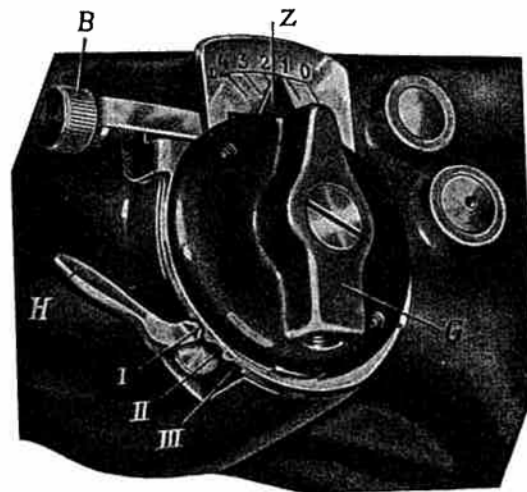

Fig. 12
If the nose of the Dial-A-Stitch lever (G), (Fig. 12), is on point zero of the scale, the machine is performing the straight stitch. If you turn the lever, (G), to the left, the machine is doing the zigzag stitch. The width of the zigzag stitch is increased as the lever, (G), is turned to the left, bringing the width of the zigzag stitch up to a maximum of $1\frac{1}{64}$ ".
If lever H (Fig. 12) is pressed against the body of the machine, and then shifted down into position II, the machine will sew to the right of the stitch made in the normal position. In position III, it will sew still farther to the right, continuing the same kind of stitch for which the
With Dial-A-Stitch lever H in position I, (Fig. 12), adjust stitch regulator between zero and one. Adjust the fineness of the zigzag stitch with screw B, to the left of